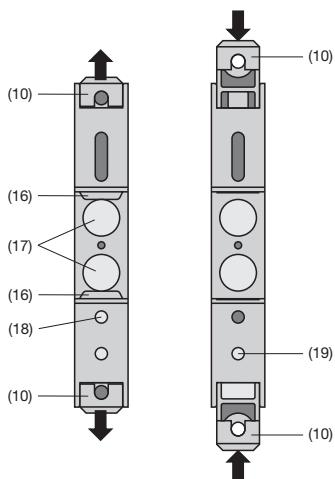

Fig. 7. Rear of device.
The wire pressing the latch (18) in the base of the device (Fig. 7, left), pull out the transmitter securing brackets (10). Now secure the transmitter to the wall or panel using two 4 mm diameter screws.
To return the brackets to their original positions, the latch (19) in the base of the device has to be depressed before applying pressure to the securing brackets (10) (see Fig. 7, right).